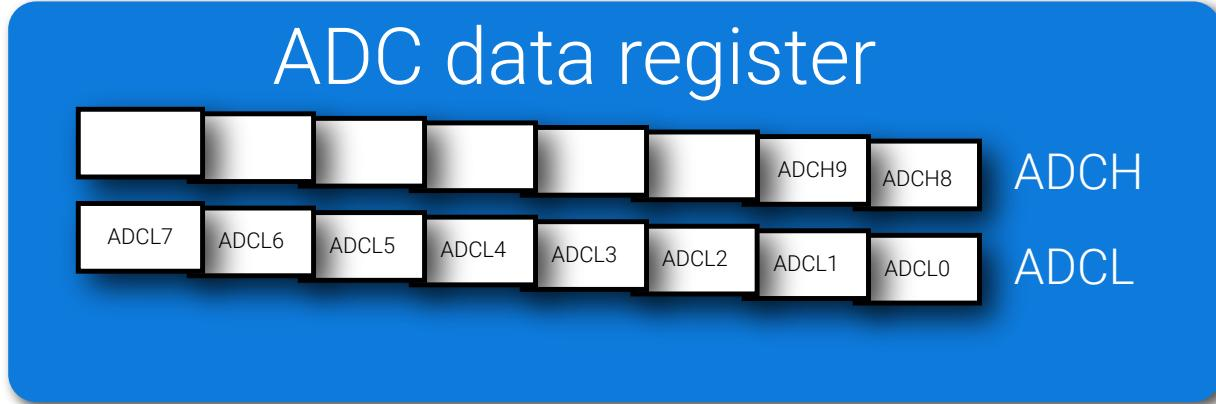

Figure 4.3: The ADC value is stored in the result registers.
- With the ADLAR bit in ADMUX register it is possible to choose how the converted ADC value will be stored in the result register, ADCH and ADCL. For details see page 336-337. By setting this bit to one, the most significant bit is placed at index 1 and the next most significant at 0, in the high byte of ADC result register ADCH. The remaining part is placed in the low byte of the adc result register. The way the data is aligned is called right adjusted. See Figure 4.3.